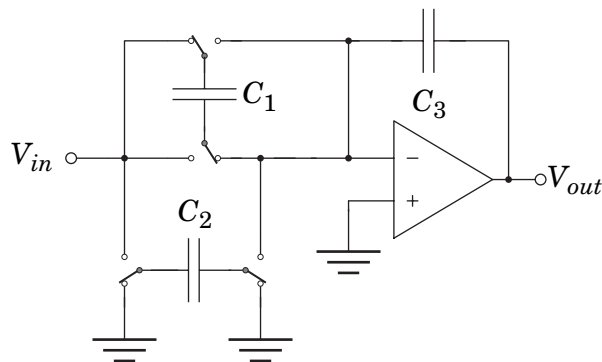

Figure 4.1 A switched capacitor circuit.
A switched capacitor circuit in clock cycle 1 is shown in Figure 4.1.
- a) Derive the transfer function for the clock cycle 1 of the switched capacitor circuit shown in Figure 4.1, i.e., $V_{out}(z)/V_{in}(z)$. Assume that the OTA is ideal. (4p)